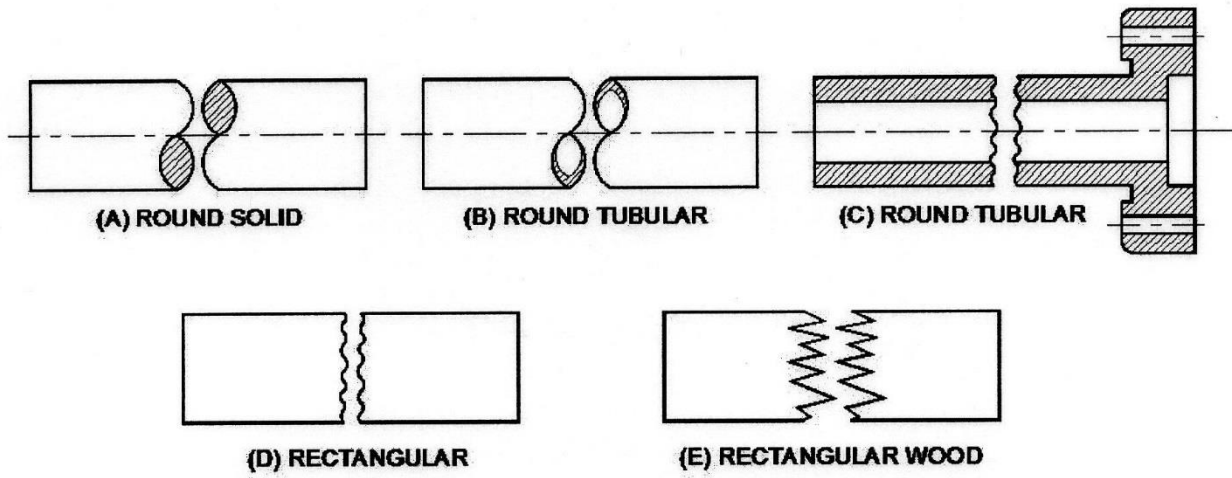

Figure 10. Conventional Breaks.
- g. Identify when conventional breaks should be used and describe “breaking” techniques (Figure 10).